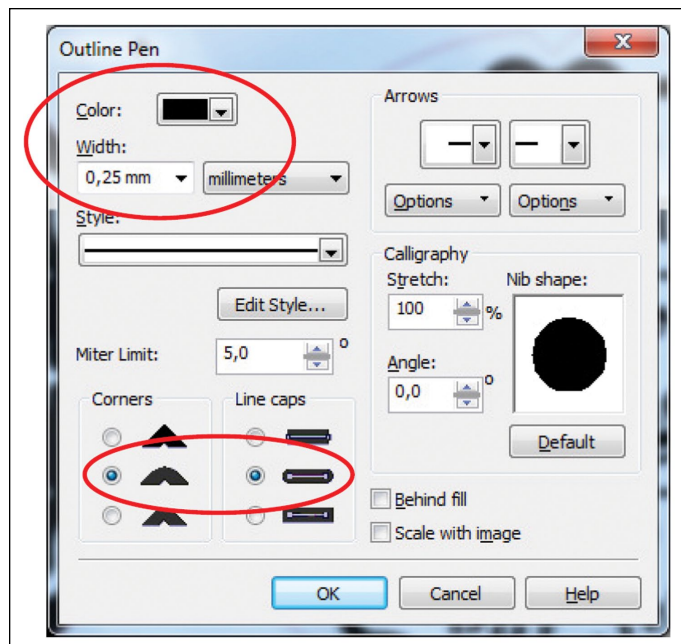

Figure 7: Outline settings for enlarging the text and graphic elements on the mirrored die plate
- Select the text and graphic elements, choose the Outline tool and the Outline pen, make the outline a 0.25 mm width and highlight the corners and rounded line ends (see Figure 1, and Figures 7 and 8 on page 24). Now you are ready to process your file on the laser.